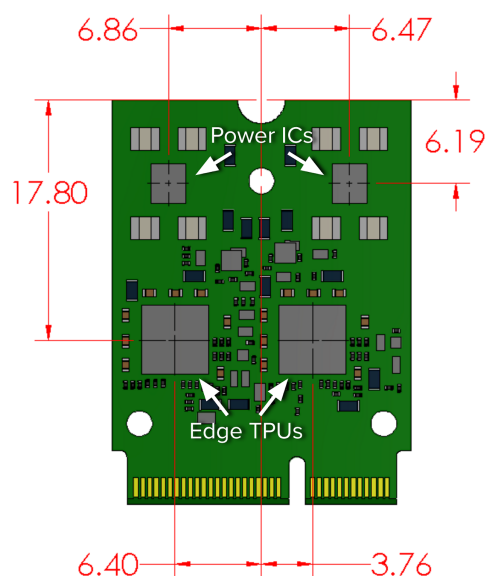

Figure 2. Location of the Edge TPUs and power ICs (PMICs), which are the primary heat sources
The primary heat-generating components on the card are the two Edge TPUs and two power ICs, indicated in figure 2. During typical operation, approximately 90% of the system power is distributed evenly across the two Edge TPUs, and the remaining 10% dissipates from the two power ICs. Total power dissipation depends on the operating frequency and computational load.
1.1 (August 2020)	Corrected operating temperature and thickness tolerance. Added measurements for component locations in figure 2. Miscellaneous copyedits.